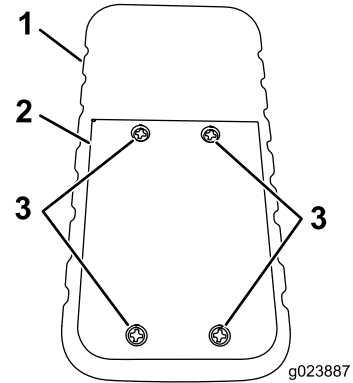

Figure 3
1. Loosen the four screws securing the battery cover (Figure 3).